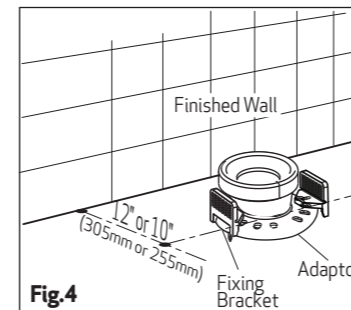

Fig.4
3. Place a fixing bracket (#687087) onto each closet bolt and hand tighten the nuts and washers onto the closet bolts as detailed in Fig.4. Apply an additional turn by wrench for a final installation.